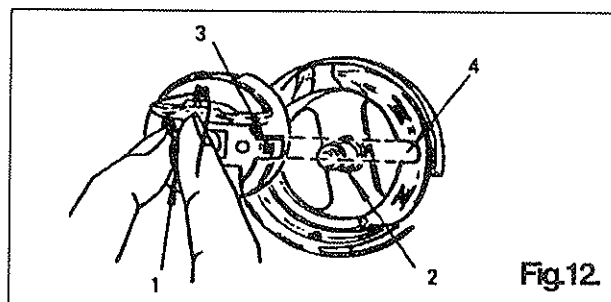

Fig.12.
Hold bobbin case by latch (1) and place it on spindle of bobbin case holder (2) so that position finger (3) enters notch (4) at right of bobbin case holder (see Fig.12). Release latch and press bobbin case firmly in place to assure proper position. Close bed slide.